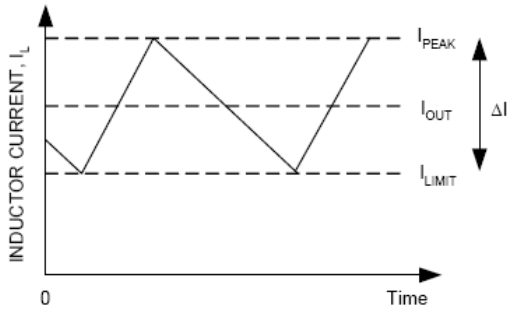

Figure 2. Current-Limit Algorithm
The current-limit circuit employs a "valley" current-sensing algorithm (See Figure 2). The TD1730 uses the low-side MOSFET's RDS(ON) of the synchronous rectifier as a current-sensing element. If the magnitude of the current-sense signal at PHASE pin is above the currentlimit threshold, the PWM is not allowed to initiate a new cycle. The actual peak current is greater than the currentlimit threshold by an amount equals to the inductor ripple current. Therefore, the exact current-limit characteristic and maximum load capability are the functions of the sense resistance, inductor value, and input voltage.